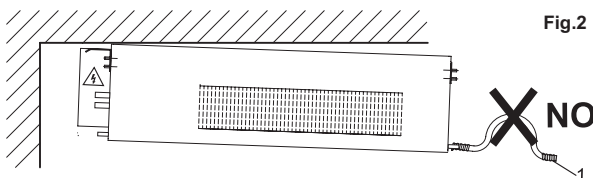

Fig.2
- Ensure that the drain pipe does not bend upwards in any way, see **1-Fig.2**.